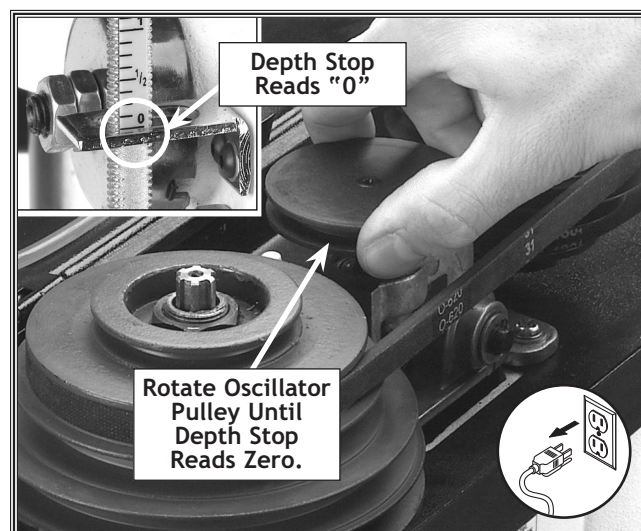

Figure 25. Fully seating quill shaft.
3. Rotate the oscillator pulley so the depth stop reads "0" and the quill shaft is completely seated, as shown in Figure 25.